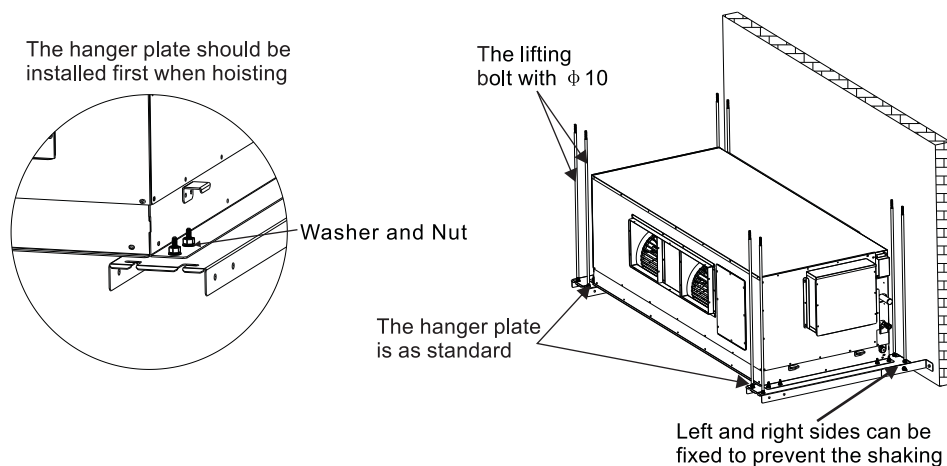

Figure 3.8
- 4) The high static pressure ducted unit 45.0kW~56.0kW and the fresh air 45.0kW~56.0kW need use hanger plate to install. The hanger plate is as standard. (The hanger plate should be installed when hoisting, and use the eight lifting bolt with $\phi 10$). Refer to Figure 3.8.